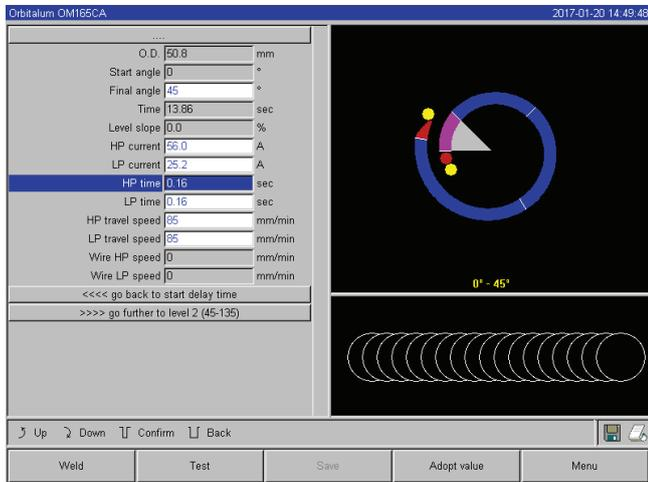

Fig. 20: Input field of a sector with representation of the seam scale
- ▶ Confirm message (see Fig. 20) by pressing the rotary knob.